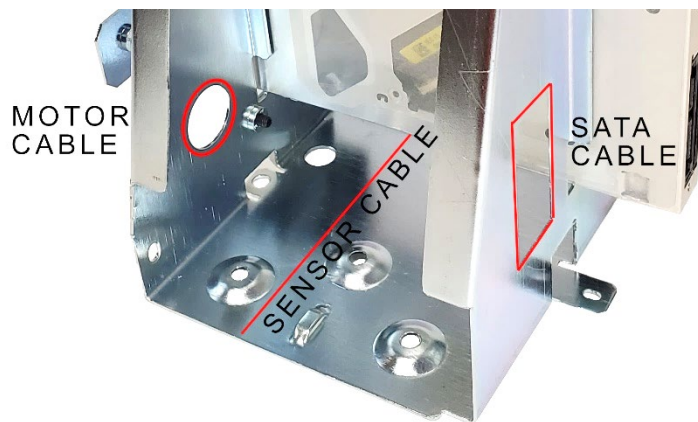

Figure 35
1. Route the cables through the ODD bracket openings as shown in Figure 35: